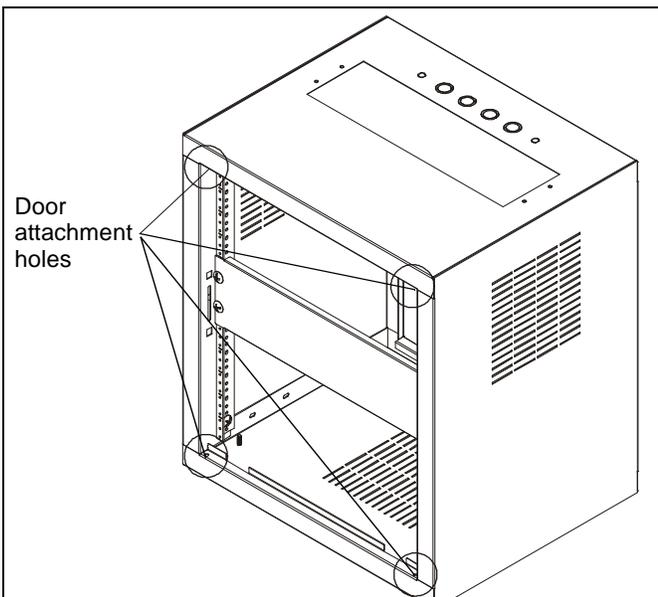

Figure 10
3. Insert door into rack, aligning the spring handle ends with the holes in the top and bottom of rack. (See Figure 10)